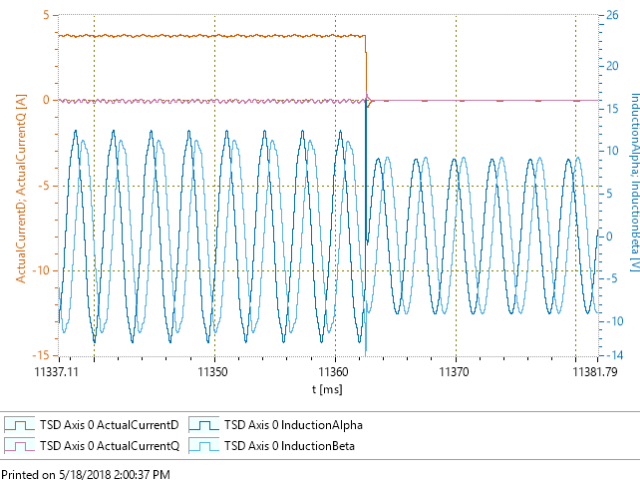

Figure 5: Estimated voltage before optimization of induction L ($L=0$).
6. Repeat from step 2 until the condition at 5 is fulfilled and the optimal value L_{opt} is found. Figure 5 and 6 show the transition without and with optimization of *L*. Don't forget to reset *.../Parameters/Commutation/CurrentAmplitude* to the initial value and to stop the running move.